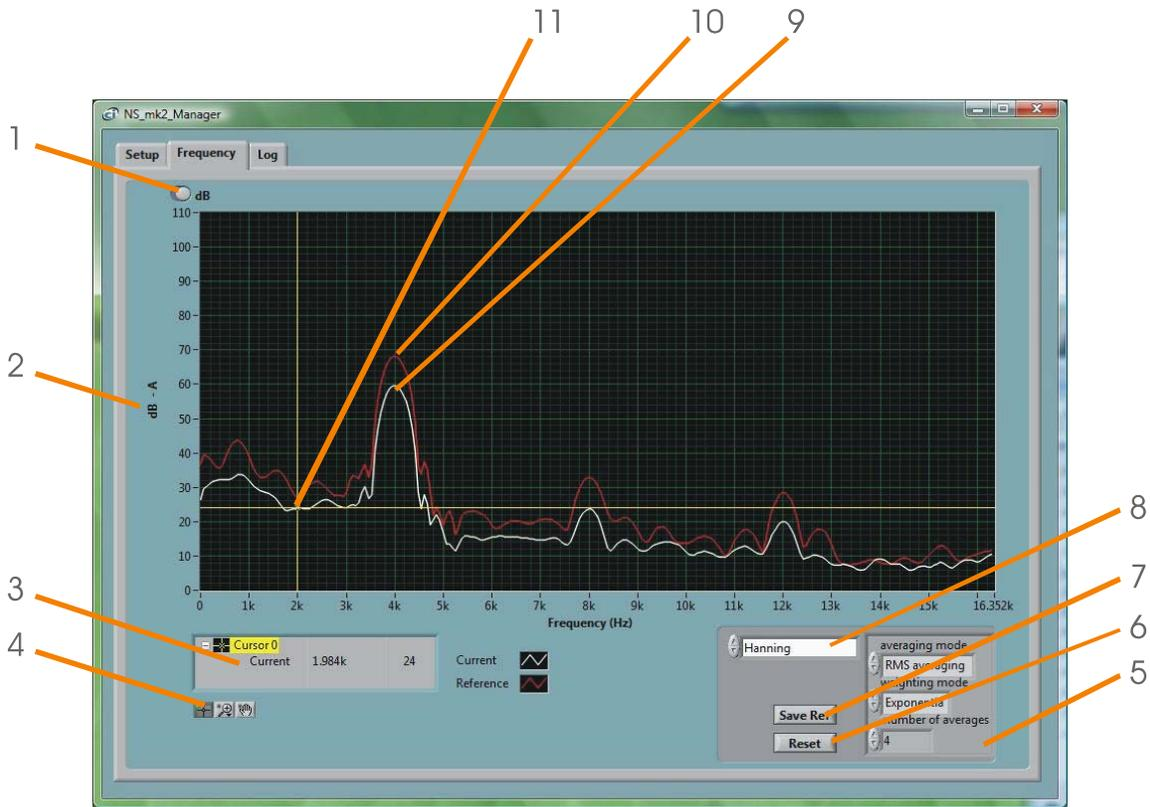

Figure 5: Frequency Spectrum Display
- **The Frequency Tab:** Is used to display a real-time frequency spectrum of the acoustic signal (see figure 5).